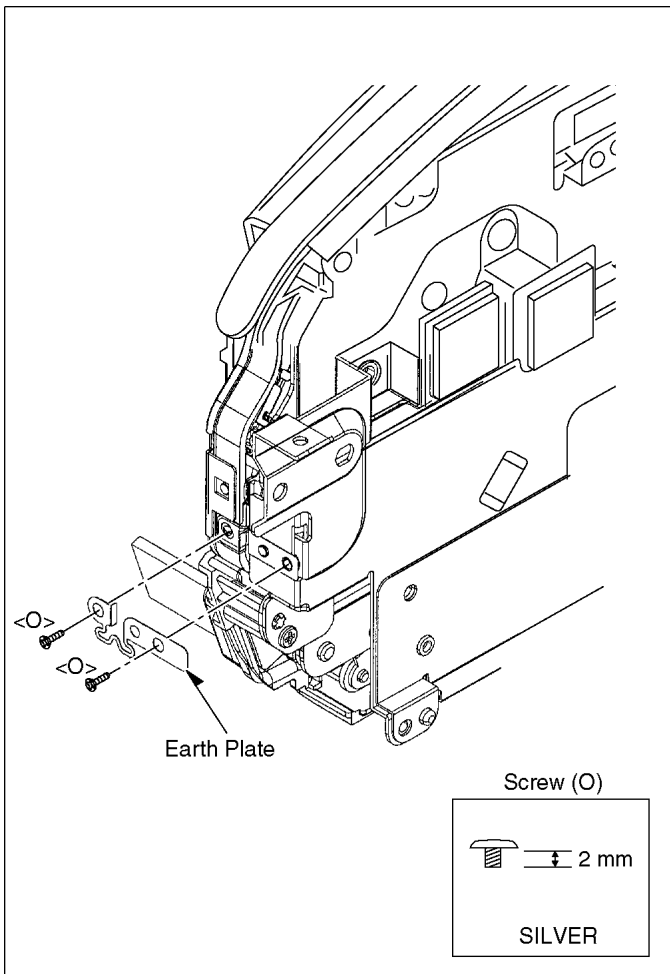

Fig. D10
| 8 | DVD Drive Unit,Side(L) Unit | Fig. D10 | 2-Screws (O) Earth Plate |